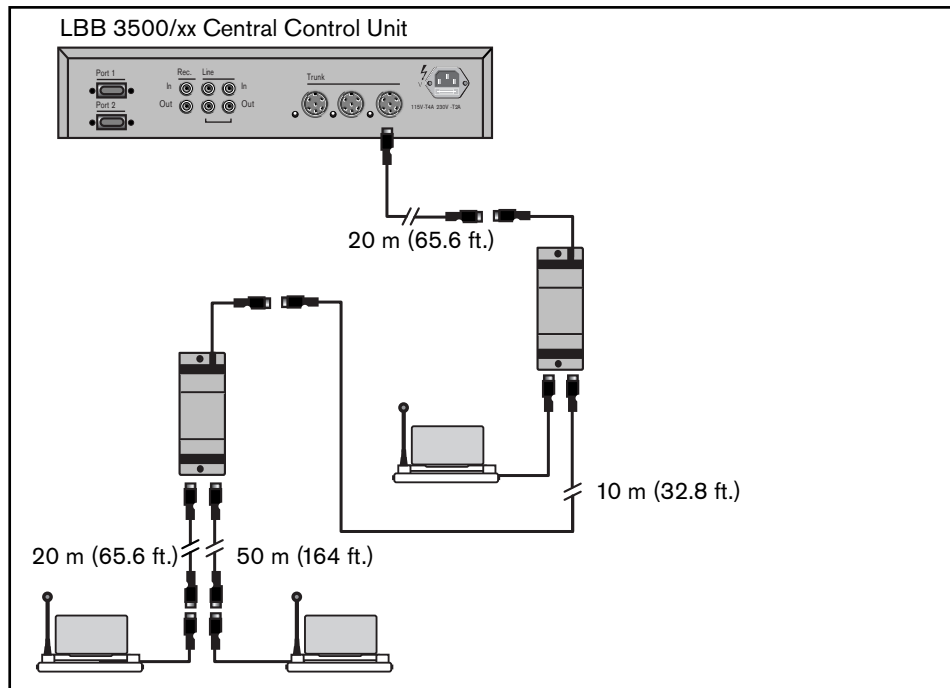

FIG 10-7 Calculating the length of extension cables
As stated, the length of cable used in a system has a direct influence on the PCF of a system. In the example shown in FIG 10-7, the second in-line trunk-splitter has two extension cables connected to it, with lengths of 20 m (65.6 ft.) and 50 m (164 ft.) When determining the cable length of a trunk-outlet or tap-off connector, the longest extension cable only is taken in to account - in this example, the 50 m (164 ft.) cable. Therefore, in this example the total extension cable length from a single trunk-outlet of the CCU is calculated as 20 (65.6)+ 10 (32) +50 (164)= 80 m (262 ft.).